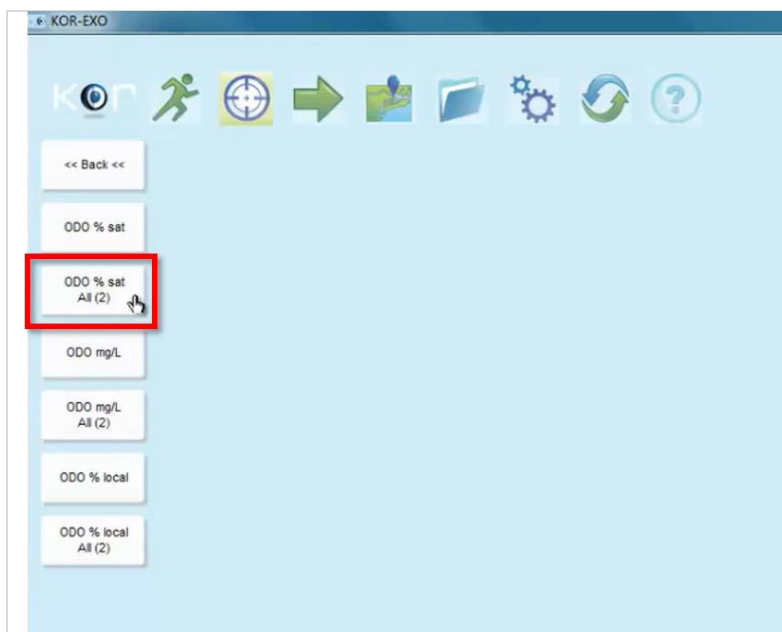

Figure 124. Select ODO % sat Unit
**STEP 2** | In the KorEXO software, select the port with the DO sensor probe. Under the Calibration Menu, select **ODO % sat** unit (Figure 124).